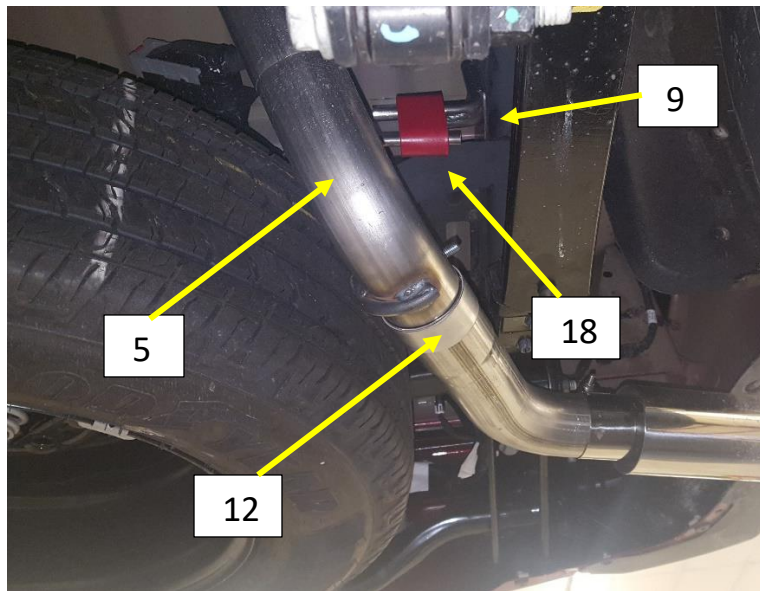

Figure 14
18. Install the tailpipe rear hanger rod into the Isolator at the frame hanger (9). **Fig.14**